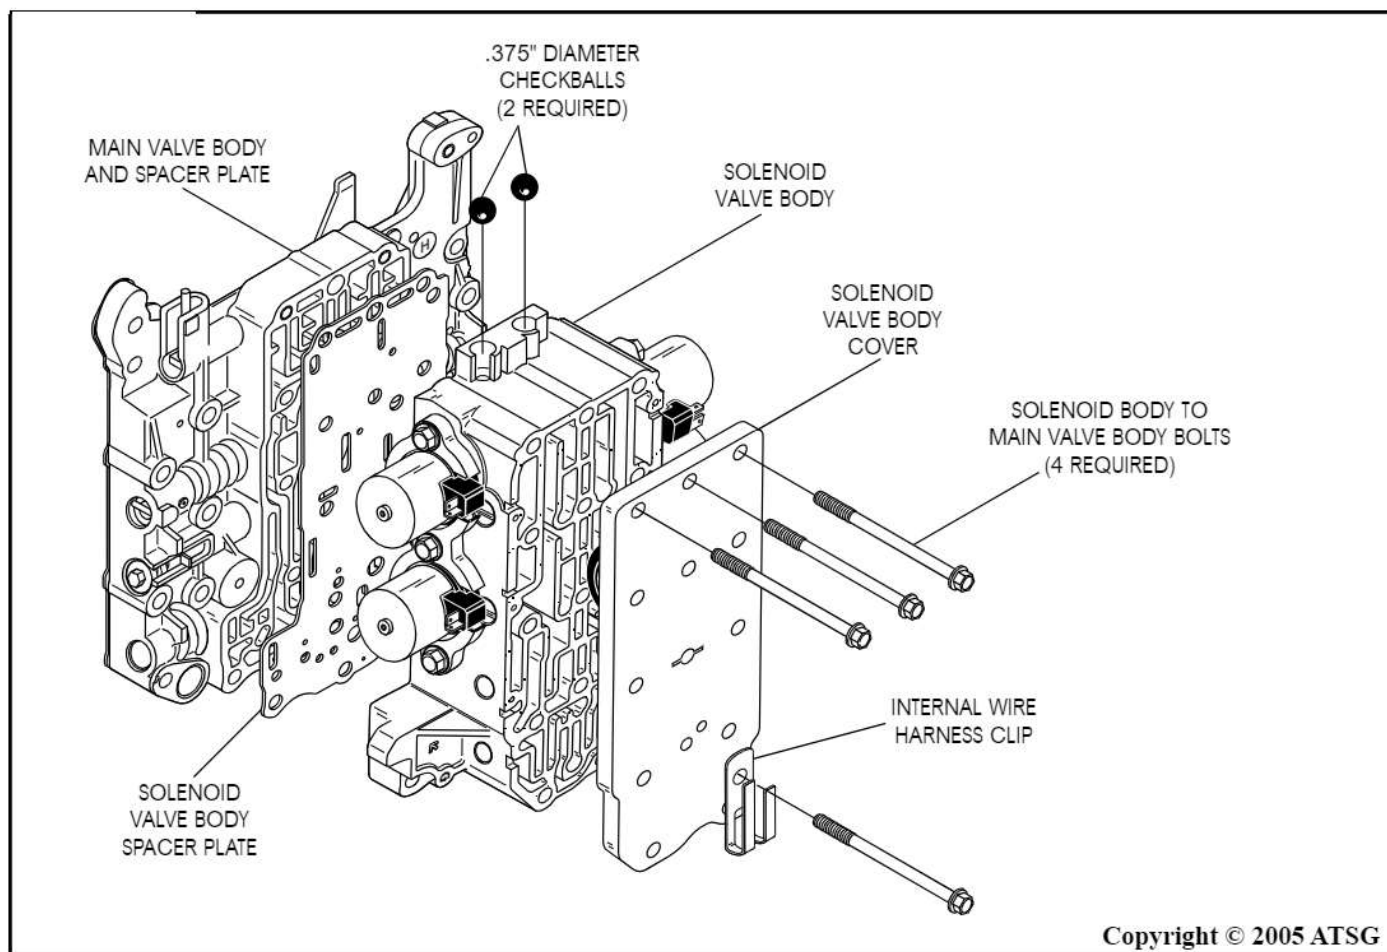

Figure 149
29. Install the solenoid body spacer plate, solenoid body and the solenoid body cover, as shown in Figure 149.
30. Install the four solenoid body to main valve body bolts in locations shown in Figure 149.